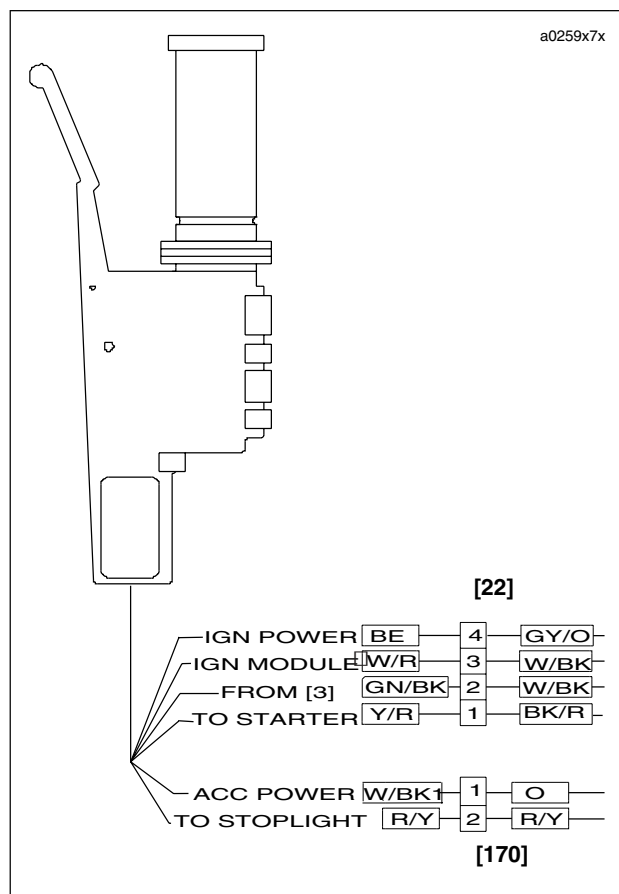

Figure 7-71. Right Handlebar Switch Connection [22] and Brake Switch Connection [170]
2. See Figure 7-71. Cut cable strap to access right handlebar switch connector [22] behind dash. Detach connector [22] from wiring harness.
3. See Figure 7-71. Route switch housing wiring harness between front forks. Attach connector [170] and connector [22] to wiring harness. Fasten wiring harness behind dash with **new** cable straps.